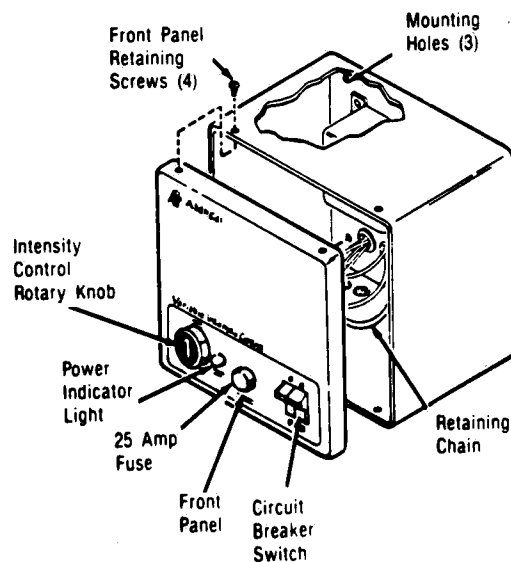

Figure 4-26. 25 AMP VARIABLE INTENSITY CONTROLLER.
1. Remove cover from control box by removing four screws and then allow it to hang from chain restraint. (See Figure 4-26)